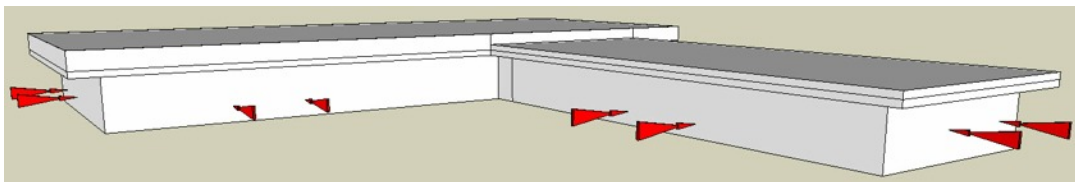

Figure 29. Walls moved inwards by 1500mm
- Buildings 1 & 2 front and side walls now need to be Push/Pulled inwards by 1500mm to form the overhang as shown in Figure 29.